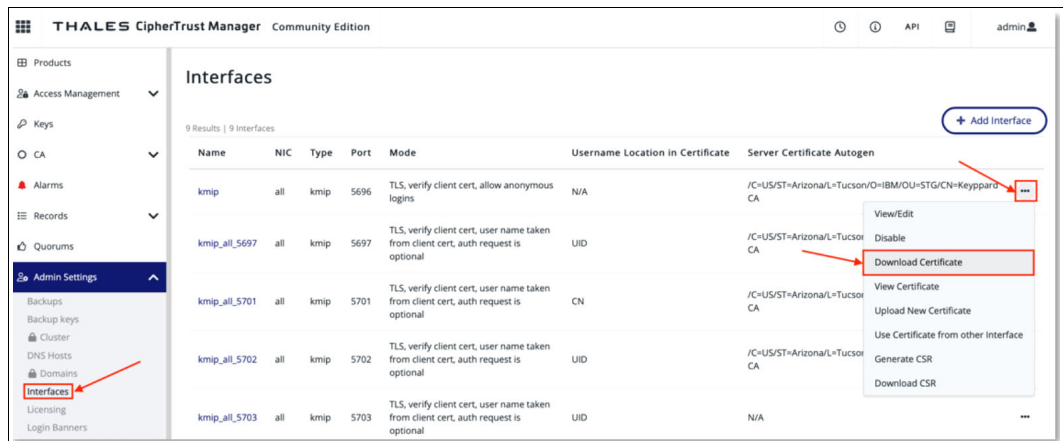

Figure J-23 Interfaces panel
- b. Click **Download Certificate** as shown in Figure J-23.